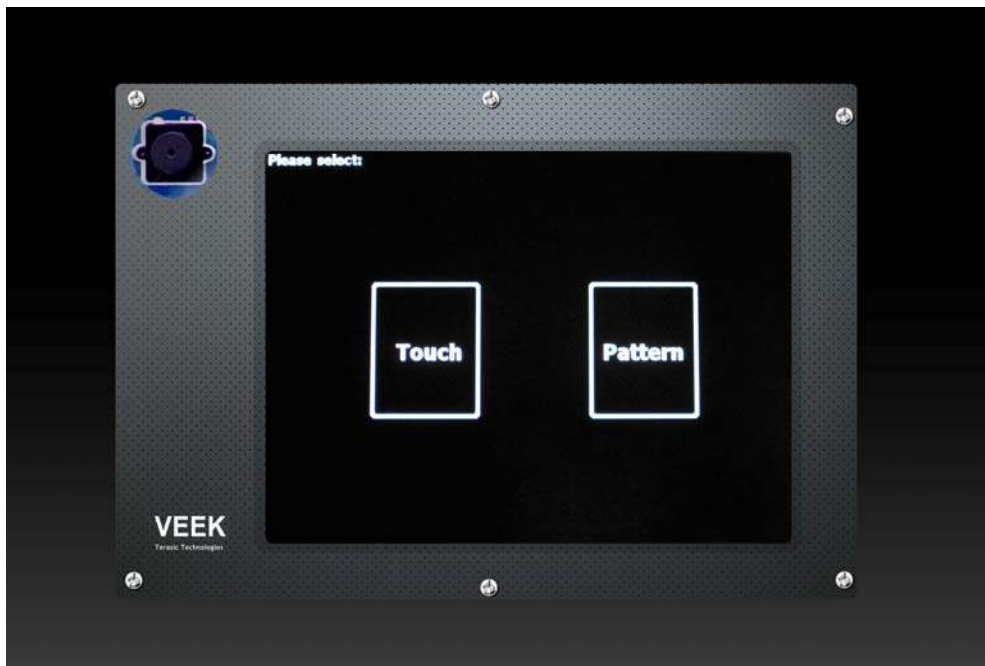
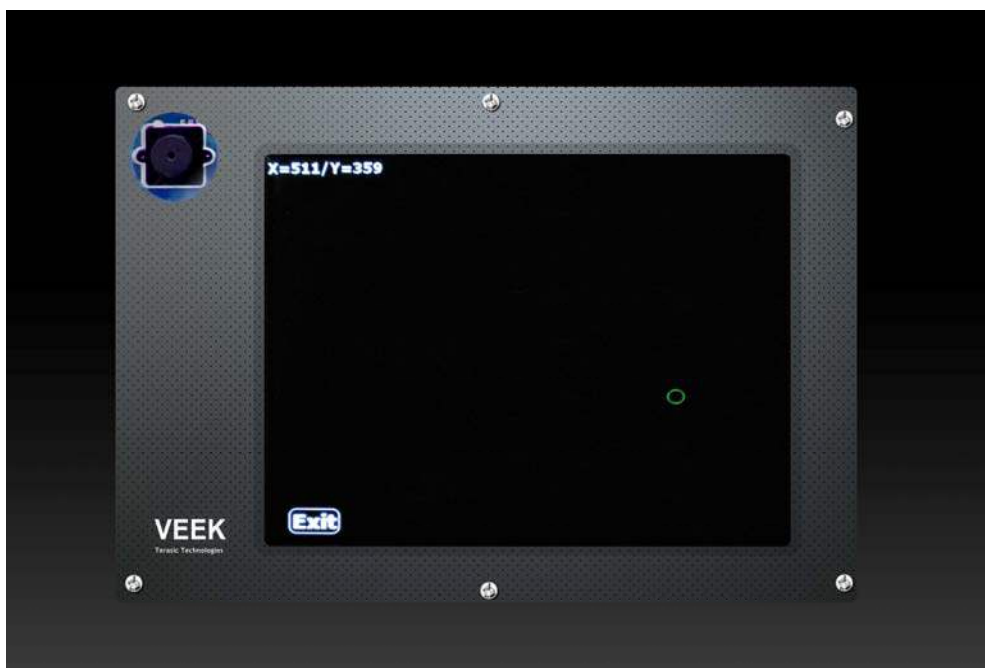
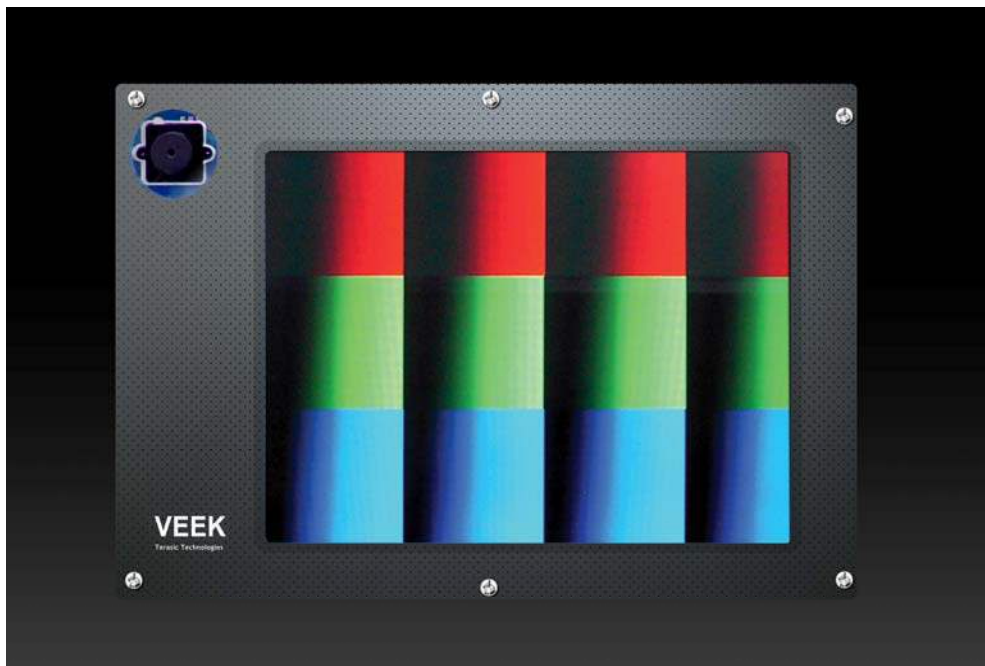

Figure 4-4 Main interface of the VEEK Starter demonstration
Figure 4-5 The VEEK Starter Touch sub item
Figure 4-6 The VEEK Starter Pattern sub item
- From on the touch panel, tap any icon of the main interface and start the experience, as shown in Figure 4-4, Figure 4-5 and Figure 4-6